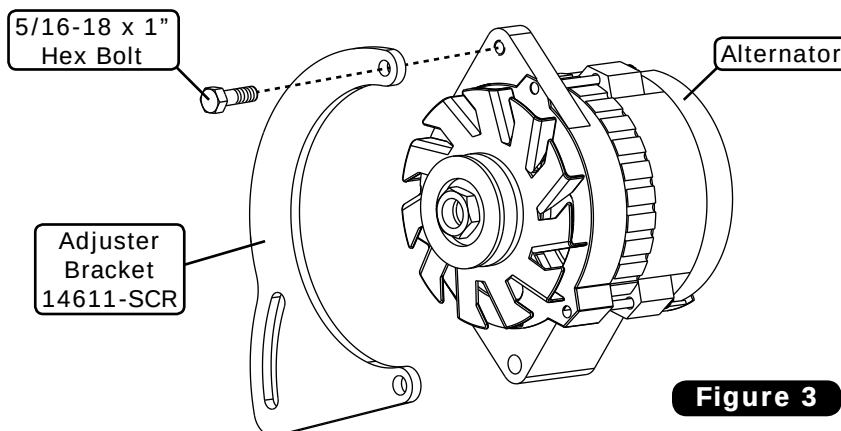

Figure 3
1. Install the adjuster bracket onto the alternator using a 5/16-18 x 1" hex bolt as shown in Figure 3, below.